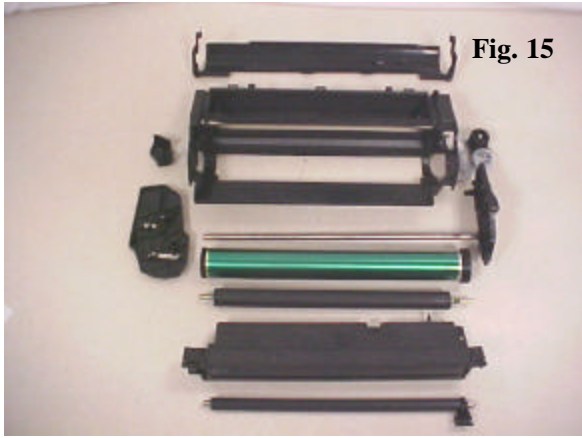

Fig. 15
20. After cleaning out all residual toner from the waste hopper and the toner delivery roller, reassemble components in reverse order (Fig. 15).